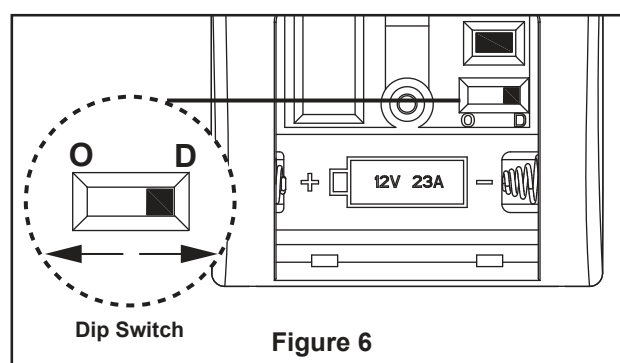

Figure 6
6. Reinstall the hanger ball on the downrod as follows. Route the black, white and blue wires and safety cable through the hanger ball. Position the pin through the two holes in the downrod and align the hanger ball so the pin is captured in the groove in the top of the hanger ball. Pull the hanger ball up tight against the pin. Securely tighten the set screw in the hanger ball. A loose set screw could create fan wobble. (Figure 6)
- 6.** "D" and "O" dip switch: For this fan, switch should be in the "D" position, allowing for dimming of the light. (Figure 6 )